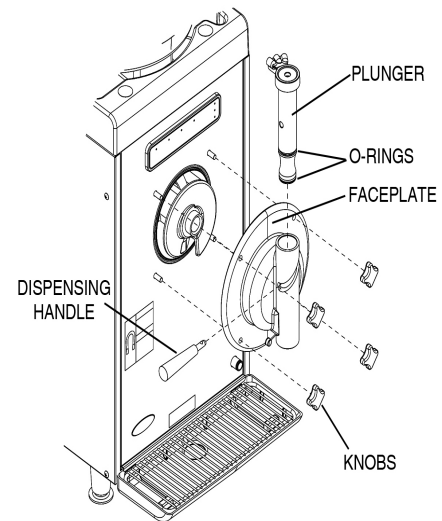

Figure 11.
4	Remove the Dispense Handle from the Plunger, by pulling it straight out of the Plunger. Figure 11.
5	Remove the Faceplate from the front panel by unscrewing the four (4) Thumb Knobs. See Figure 11.
6	Remove the Plunger from the Faceplate by pulling it out the top of the Faceplate. See Figure 11.